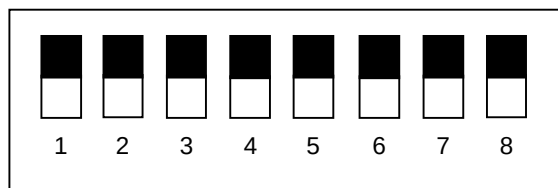

Figure 6.1.2 DIP switches (Being set for Standard setting)
- (2) Perform as the procedure shown below.
(3) Set the DIP switch No.4 as shown in Figure 6.1.2.